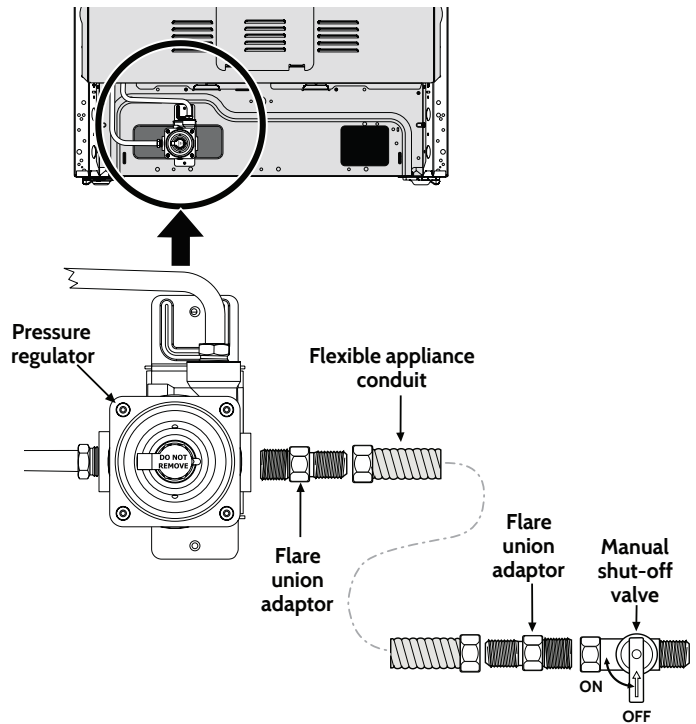

Fig. 8 - gas supply connections
- Install an external manual gas shut-off valve to gas supply line in an accessible location outside of range. Be sure you know where and how to shut off the gas supply to the range (See Fig. 8).
- Install 3/4" flare union adaptor to gas pressure regulator using **no more than 15ft./lbs.** of torque (Refer to Fig. 8).
- c. Install flare union adapter to external manual shut-off valve (See Fig. 8).
- d. Attach flexible appliance conduit to flare union adaptor on shut-off valve (See Fig. 8).